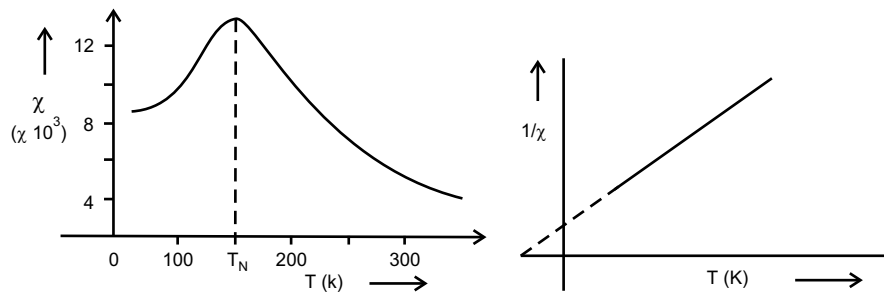

Fig.10
The variation of susceptibility (χ) of a antiferromagnetic material with temperature (T) is shown in Fig.10.